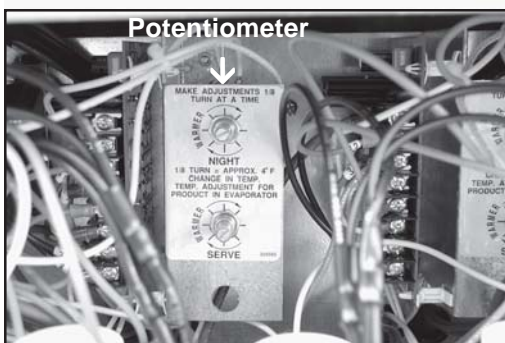

Figure 20. Potentiometer
- B. Use a screw driver to make desired adjustment. A label near the potentiometer will give complete instructions. (See Fig. 20)